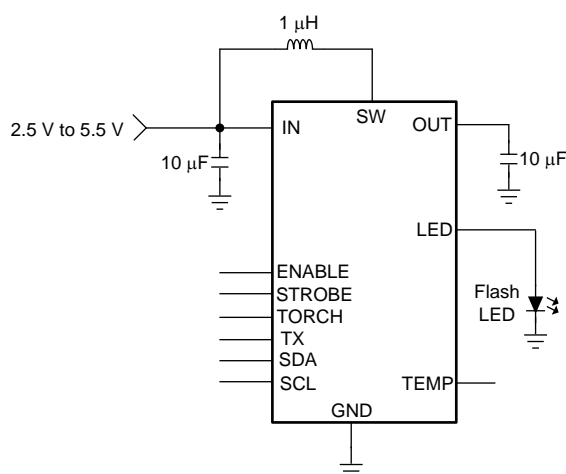

Figure 41. LM3556 Typical Application
Choosing the correct size and type of input capacitor helps minimize the voltage ripple caused by the switching of the LM3556 device's boost converter and reduces noise on the boost converter's input terminal that can feed through and disrupt internal analog signals. In the Figure 41 a 10-μF ceramic input capacitor works well. It is important to place the input capacitor as close as possible to the LM3556's input (IN) pin. This reduces the series resistance and inductance that can inject noise into the device due to the input switching currents. Table 16 lists various input capacitors recommended for use with the LM3556.